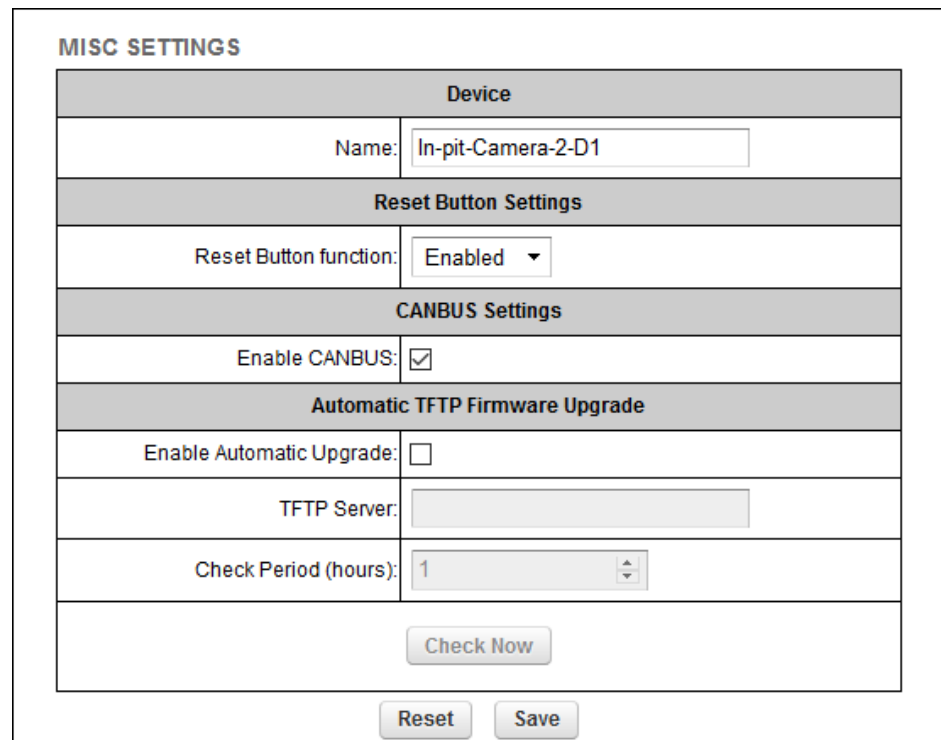

Figure 34. Configurator GUI (MISC SETTINGS dialog)
- The **MISC SETTINGS** dialog will be shown (Figure 34 (page 82)).